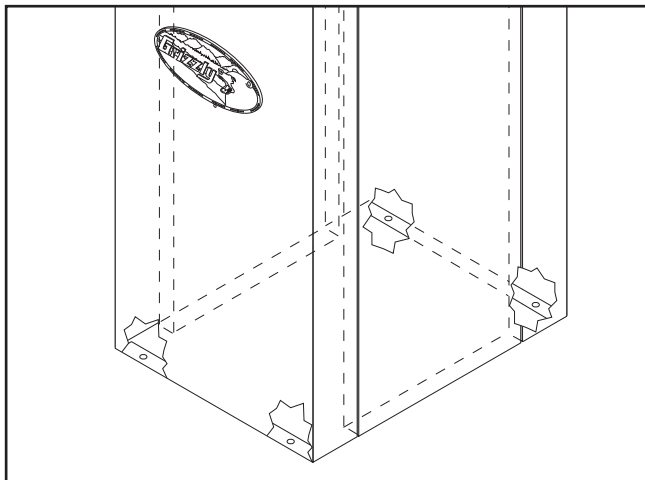

Figure 9. Mounting hole locations.
1. Drill four holes in the inner lip at the bottom of the stand in the approximate locations shown in **Figure 9**. Be sure the holes are large enough for the anchor method you choose.